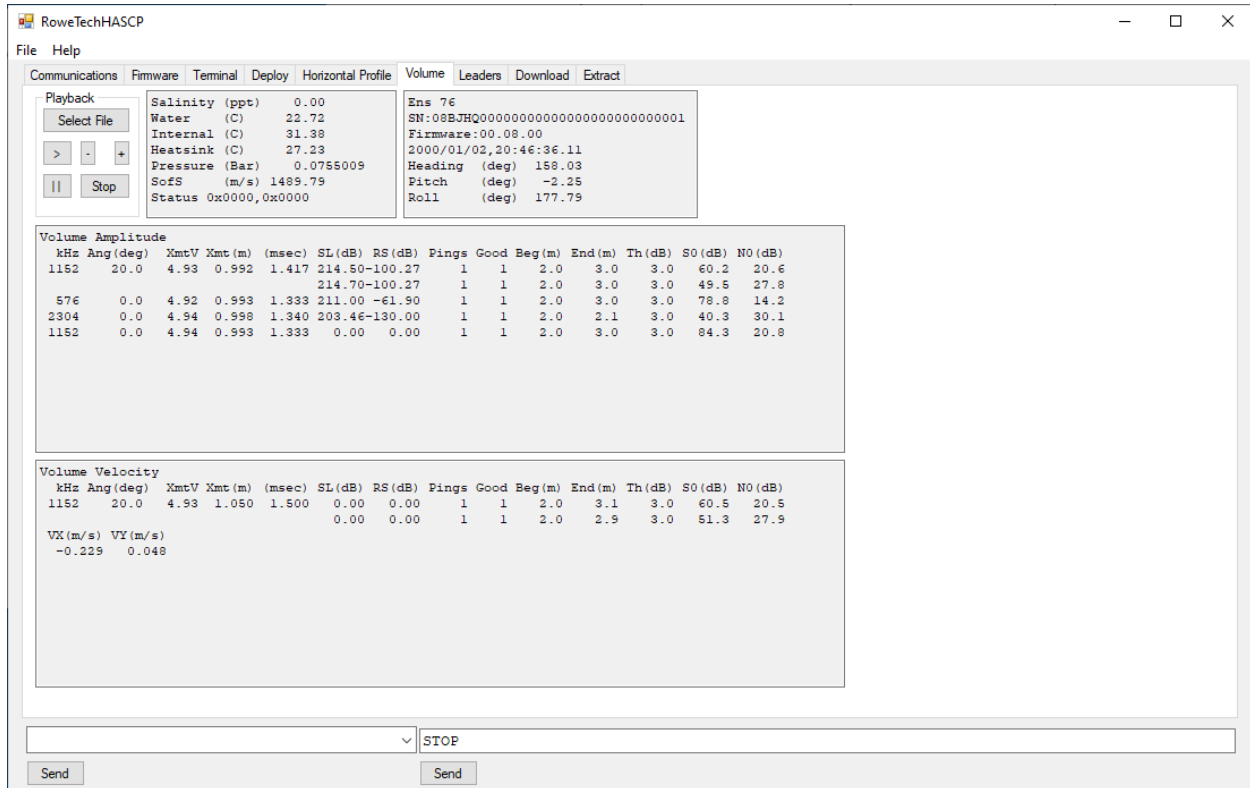

Figure 10. Volume Tab in RTI HASCP software
- i. Click the Volume TAB near the top center of the software window. Refer to Figure 10.